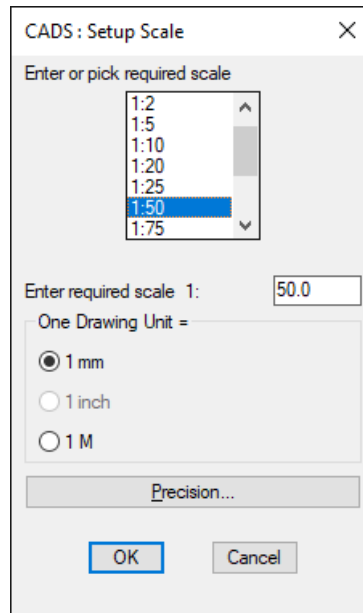

Figure 2.4 CADS: Setup Scale Dialogue Box
- ▶ The CADS: Setup Scale dialogue box will then be displayed as shown in Figure 2.4. When defining a drawing setup in Fast Mode, the Title Sheet is always inserted into Paper Space at a scale of 1:1 regardless of the scale selected from the CADS: Setup Scale dialogue box. You may therefore select 1:1 as the scale by using Set Working Scale as described later.